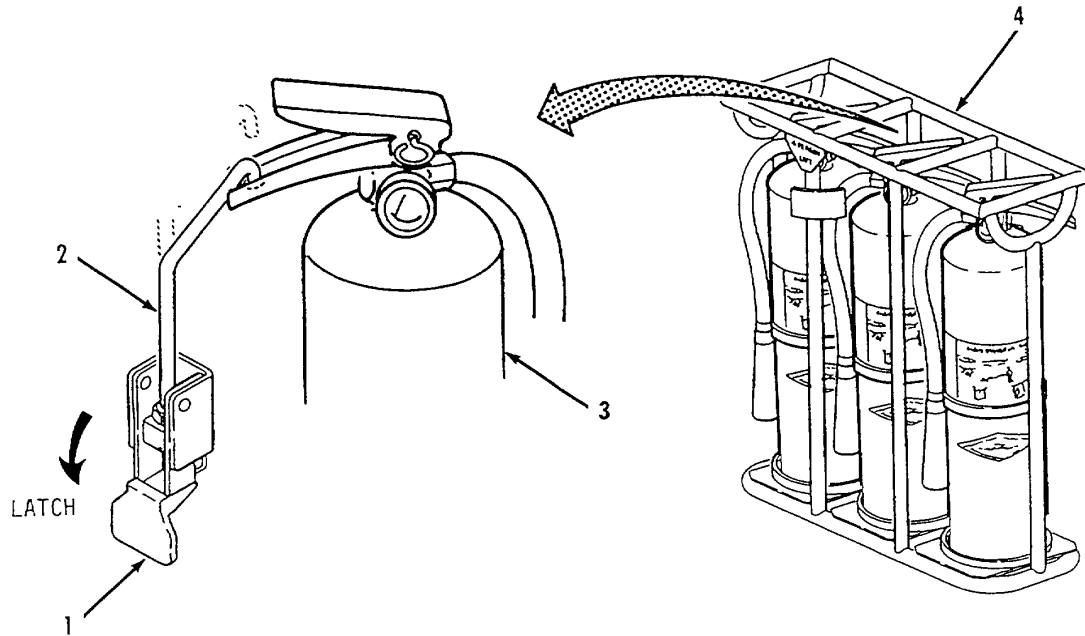

Figure 2-29. Fire Extinguisher Removal.
- i. Fire Extinguisher Removal. Refer to figure 2-29.
- (1) Position fire extinguisher (3) in frame (4).
- (2) Push down on handle (1) and latch hook (2) onto handle of fire extinguisher (3).
- (3) Repeat steps (1) and (2) for two remaining fire extinguishers.